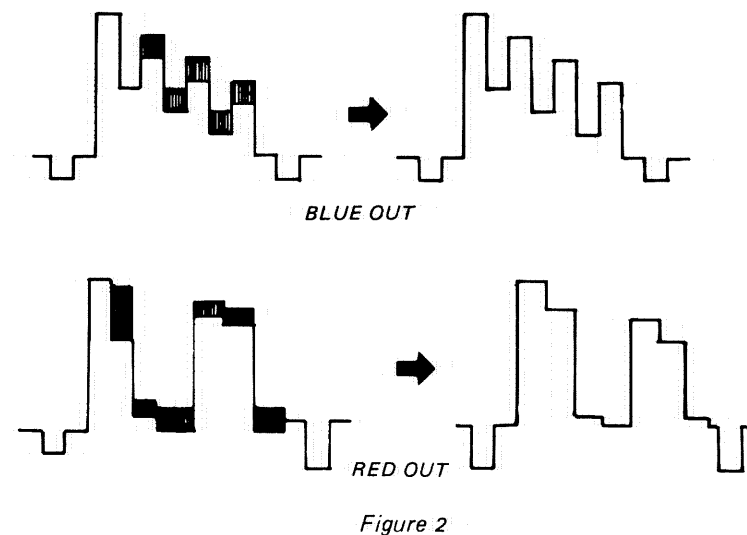

Figure 2
4. While tracking with T6 (DAT) and RV7 (DELAY ADJ VR), adjust so that blue output and red output waveforms are both as shown in Figure 2.